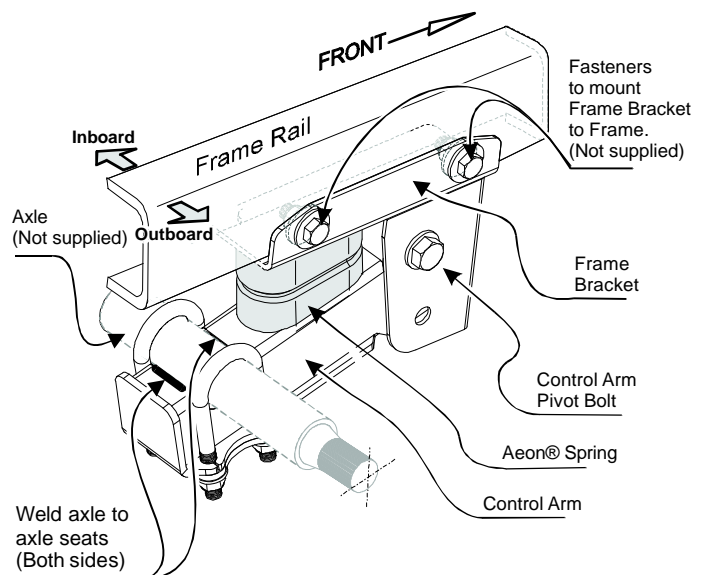

Fig. 2 View of the passenger side suspension on the trailer
- 2) Locate left and right frame brackets on frame rails, opposite to each other. The inboard faces of each frame bracket must mate corner faces of frame rail (fig. 2). Move frame brackets along frame until the center of axle seats line up with marks on the frame rails, viewing from top. Clamp frame brackets to frame.
- 6) Weld axle seats to axle (along axle only), as shown in fig. 2. **DO NOT weld U-bolts.**